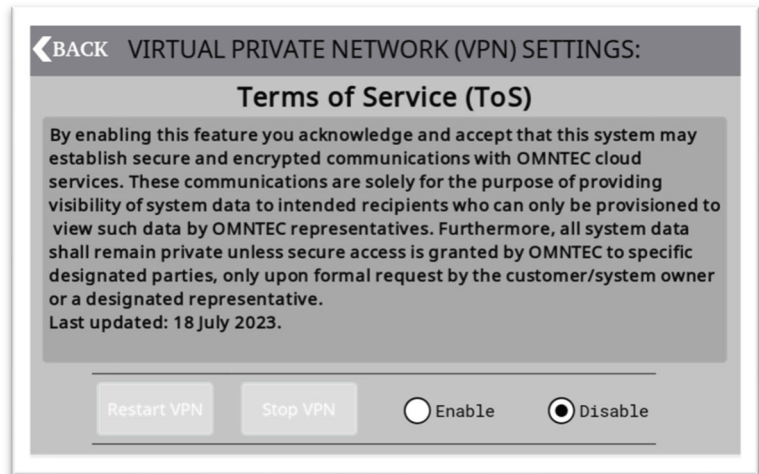

Figure 16.3
- j) **VPN Settings Icon:** Allows the ability of ENABLING or DISABLING the Virtual Private Network (VPN) feature. See Figures 16.3, 16.4, and 16.5 for more details on VPN Settings.
By factory default, VPN is disabled. The TERMS OF SERVICE (ToS) are displayed. Choose the ENABLE radio button to enable the VPN service. Choosing to enable this VPN service means you understand and agree to the displayed TERMS OF SERVICE (ToS). (See Figure 16.3)